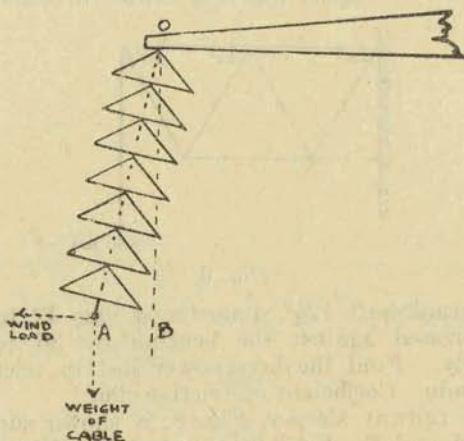

Fig. 10.
10. Fig 10 shows an insulator supporting 200 metres of electric cable. The cable is 50 sq.mm. cross section and made of copper weighing 9 grams per c.c. Find the weight of cable supported. The wind acting at right angles to the line blows the cable over so that the insulator (which is free to pivot about O) is deflected from the vertical through the angle AOB. Determine the wind pressure on the cable. You may neglect the weight of the insulator.